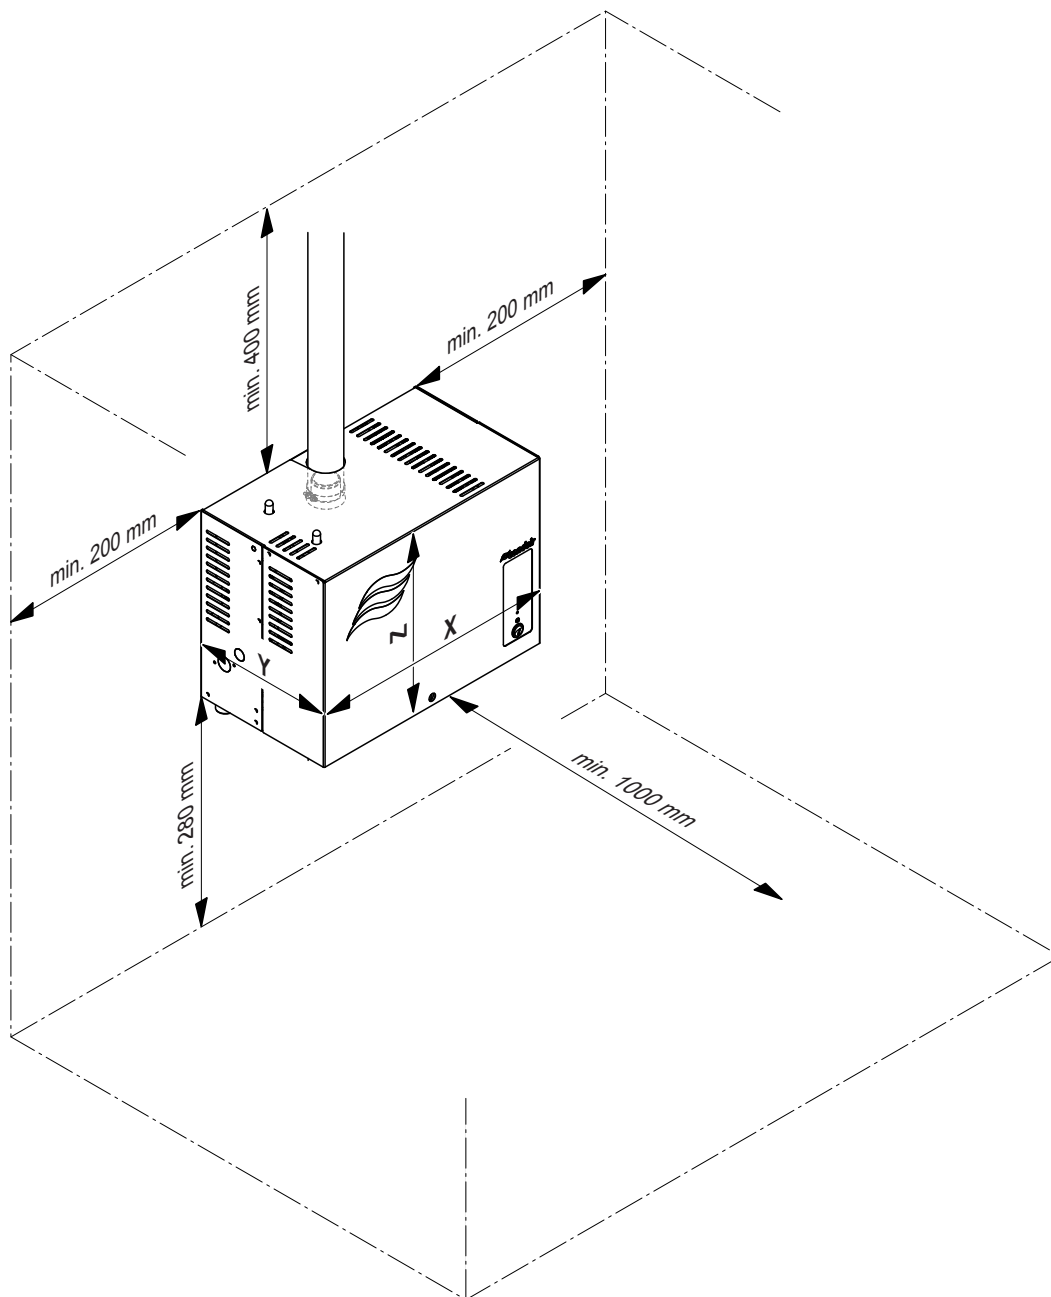

Fig. 14: Distances to be observed
- The Condair Omega is designed for wall-mounting or floor mounting (with the optional floor supports) in protected interiors. Make sure that the construction (wall, pillar, floor-mounted console, etc.) to which or on which the steam generator is to be mounted, offers a **sufficiently high load-bearing capacity** (take notice of the weight information found in the dimensions and weights table after Fig. 14), and is suitable for the installation.
- Install the Condair Omega in such a manner that it is **freely accessible** with sufficient space available for maintenance purposes. The **minimum distances** shown in Fig. 14 **must be maintained**.